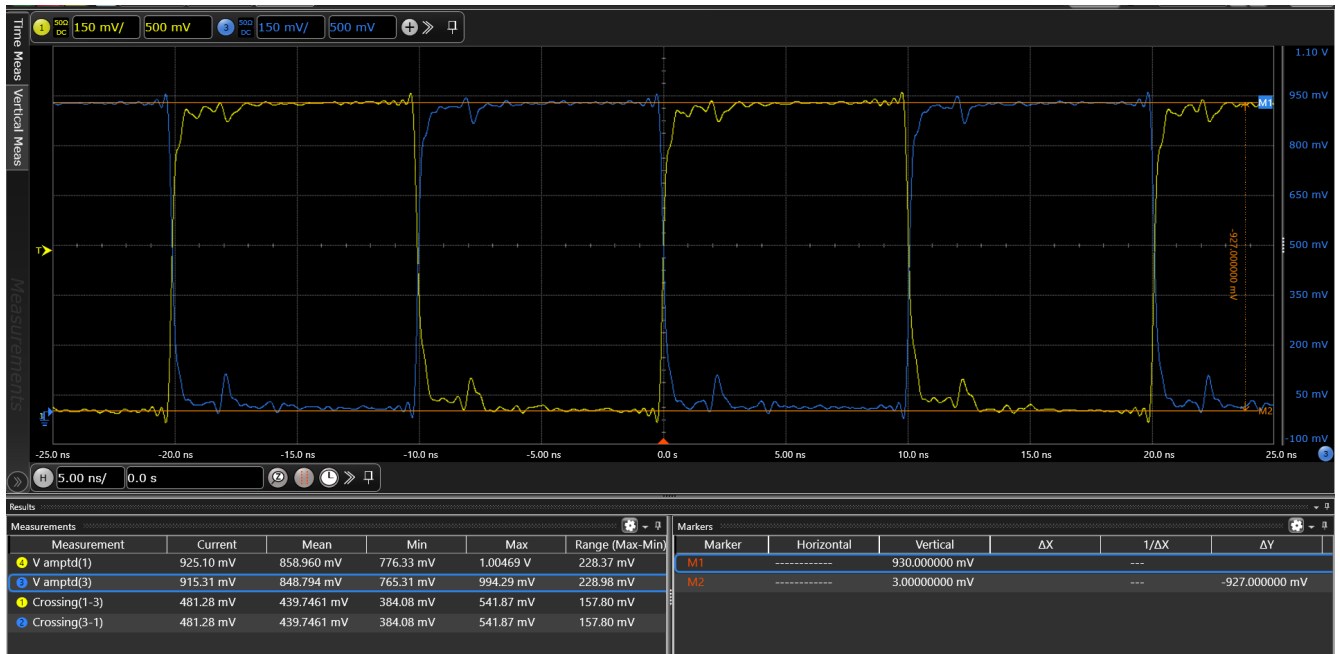

Figure 19. Vovs – HCSL External Termination, Boost = 15% on OUT0 (yellow trace) and nOUT0 (blue trace)
- Figure 19. Vovs – HCSL External Termination, Boost = 15% on OUT0 (yellow trace) and nOUT0 (blue trace)10